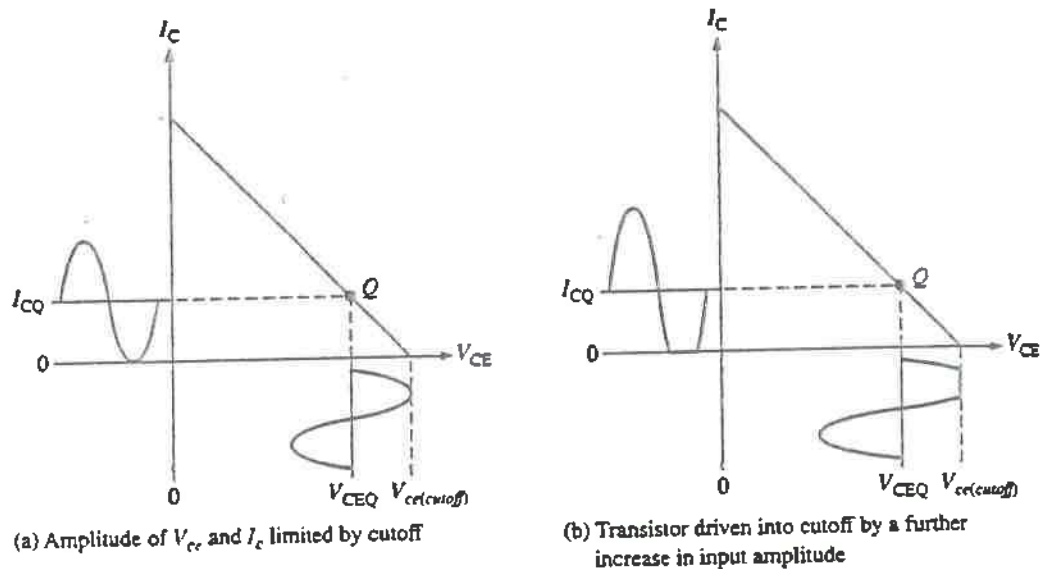

FIGURE 7-4
**Q-Point Closer to Cutoff** If the Q-point is not centered on the ac load line,  $V_{ce}$  is limited to less than the possible maximum. Figure 7-4(a) shows an ac load line with the Q-point moved away from center toward cutoff.  $V_{ce}$  is limited by cutoff in this case. The collector current can swing only down to near zero and an equal amount above  $I_{CQ}$ . The collector-to-emitter voltage can swing only up to its cutoff value and an equal amount below  $V_{CEQ}$ . If the amplifier is driven any further than this by an increase in the input signal, it will go into cutoff, as shown in Figure 7-4(b), and the waveforms will be clipped off on one peak.